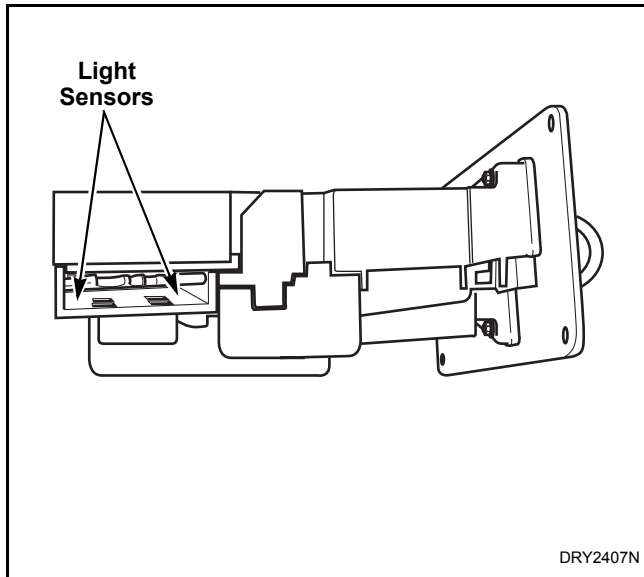

Figure 31
- f. Clean light sensors with a soft brush or air spray duster. Refer to *Figure 31*.